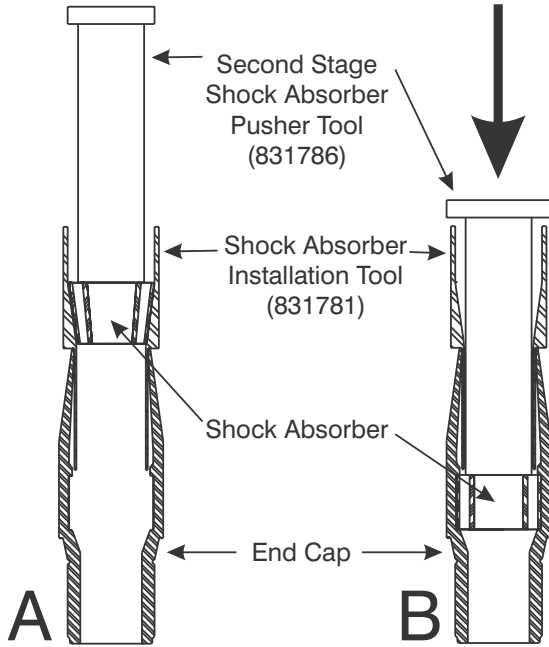

Figure 9-3. Press the Shock Absorber into the End Cap.
5. Center the Second Stage Shock Absorber Pusher Tool P/N 831786 in the Installation Tool and over the Shock Absorber as shown in Figure 9-3-A.
6. Press the Shock Absorber into the End Cap until it seats against the shoulder at the non-threaded end of the cap as shown in Figure 9-3-B.